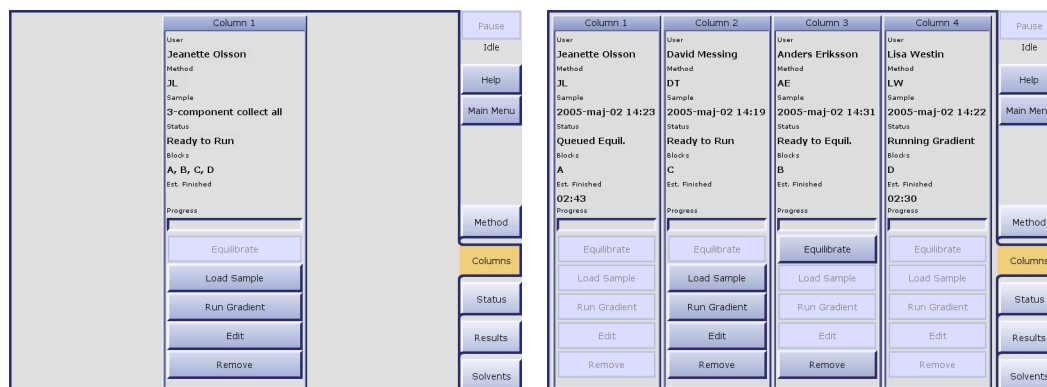

Figure 3-11. Columns Tab (SP1 and SP4)
7. To start or queue up (when using an SP4 system) an equilibration step, press **Equilibrate** at the **Columns** tab (see Figure 3-11). Before the equilibration is started, the system empties the solvent inlets of solvents used in the previous purification and fills them with new solvents.